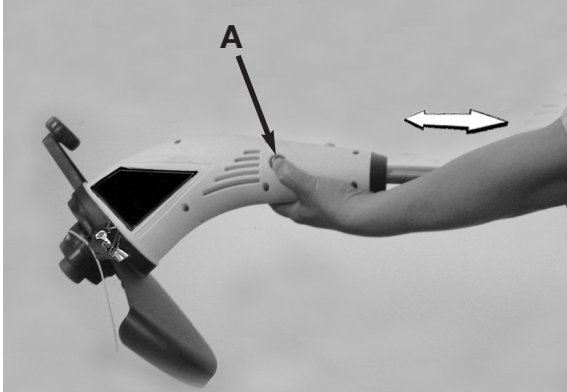

Fig. 5
2. Push shaft release button (A) and move motor housing forward or backward to desired length. (Fig. 5)